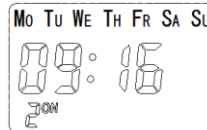

Figure10
4.2.3.3 Set 2ON (second group of bell) time: same steps as 4.2.3.2, such as Figure10.